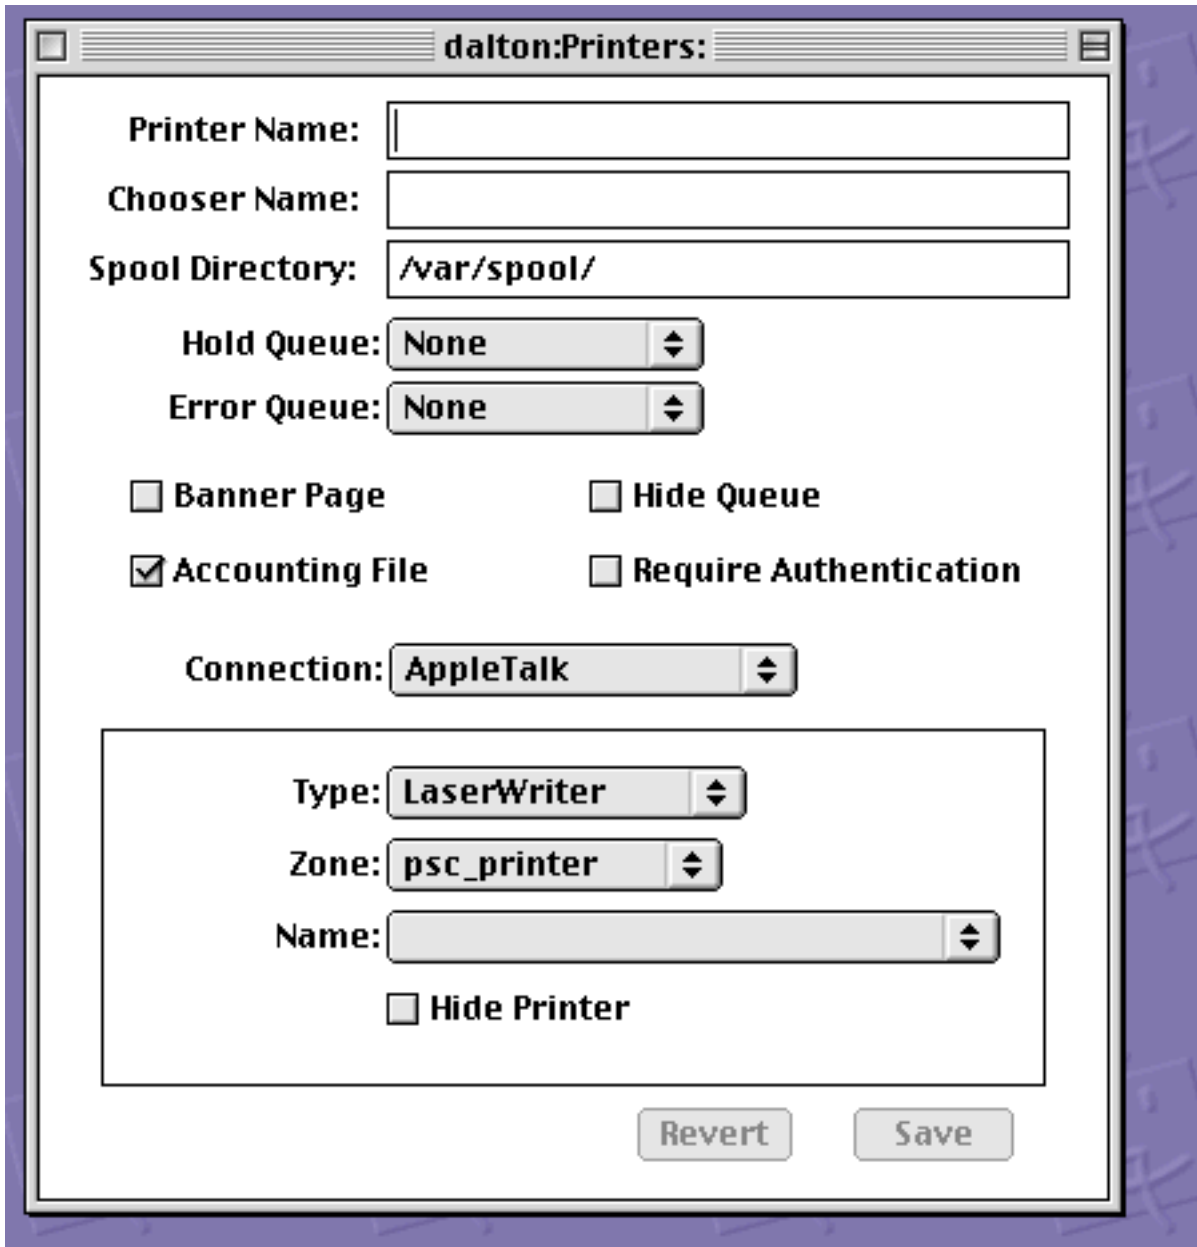

Figure 35. Print Queue window
4. From the window (displayed in Figure 35 on page 144, select a name for the printer and save the results.
where *queuename* represents the printer queue you created in Figure 35 on page 144 and *file.ps* is the name of the PostScript output file that resulted when you specified Print to File from your layout application.